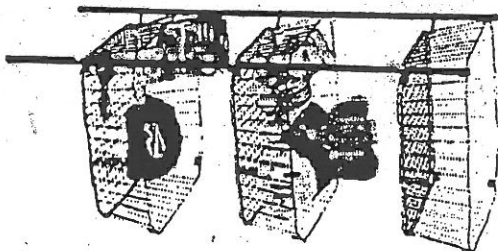

Figure 2
Step 1 – Attach the three baskets (A) to two of the legs/tubes (B) (See Figure 2)
A. With 4 cap nuts (E), 2 short bolts (D), 2 long bolts (C) and 2 sleeves (F), attach a basket to the top of two legs.
B. Repeat the above procedure for the second and third basket. (See Figure 2)